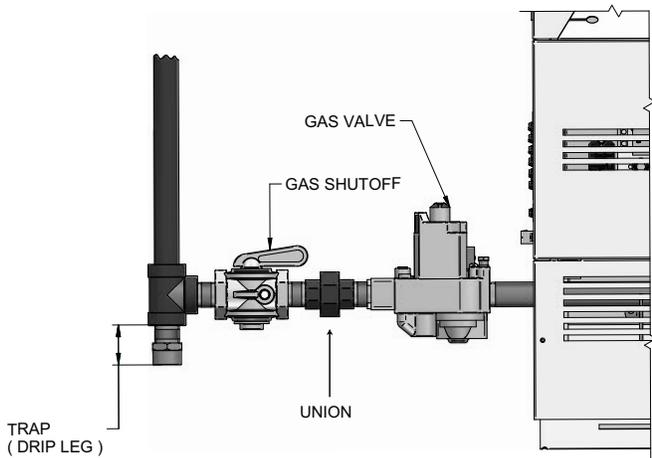

Figure 3-1 Gas Line Connection
3. Installation of a union is suggested for ease of service, see FIG. 3-1 on page 20.
5. A trap (drip leg) **MUST** be provided by the installer in the inlet of the gas connection to the appliance, see FIG. 3-1 on page 20.
All gas connections must be made with pipe joint compound resistant to the action of liquefied petroleum and natural gas. All piping must comply with local codes. Tubing installations must comply with approved standards and practices. Reference FIG. 3-1 for a typical installation.